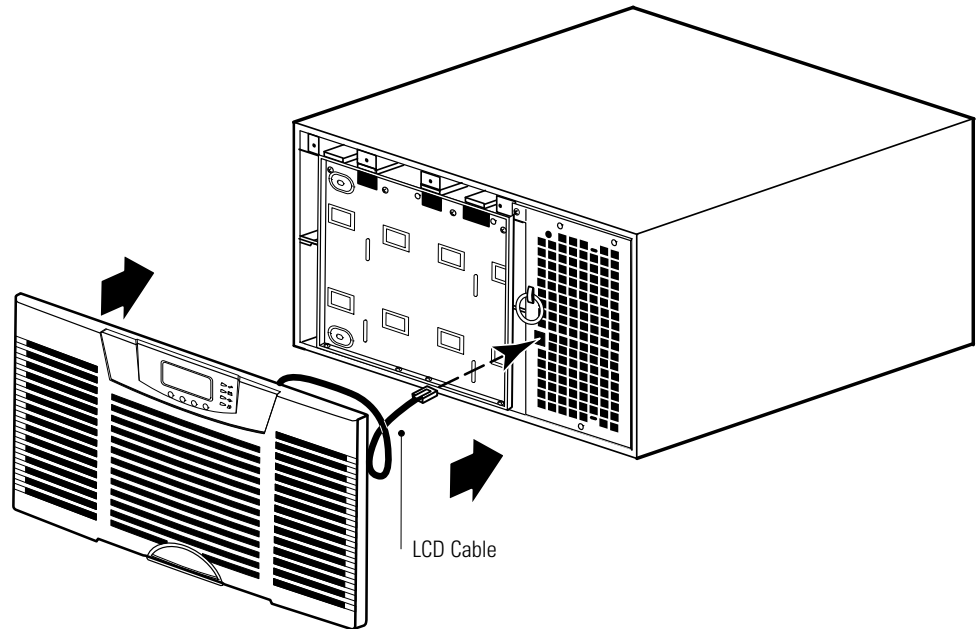

Figure 87. Replacing the UPS Front Cover
7. Replace the UPS front cover (see Figure 87):